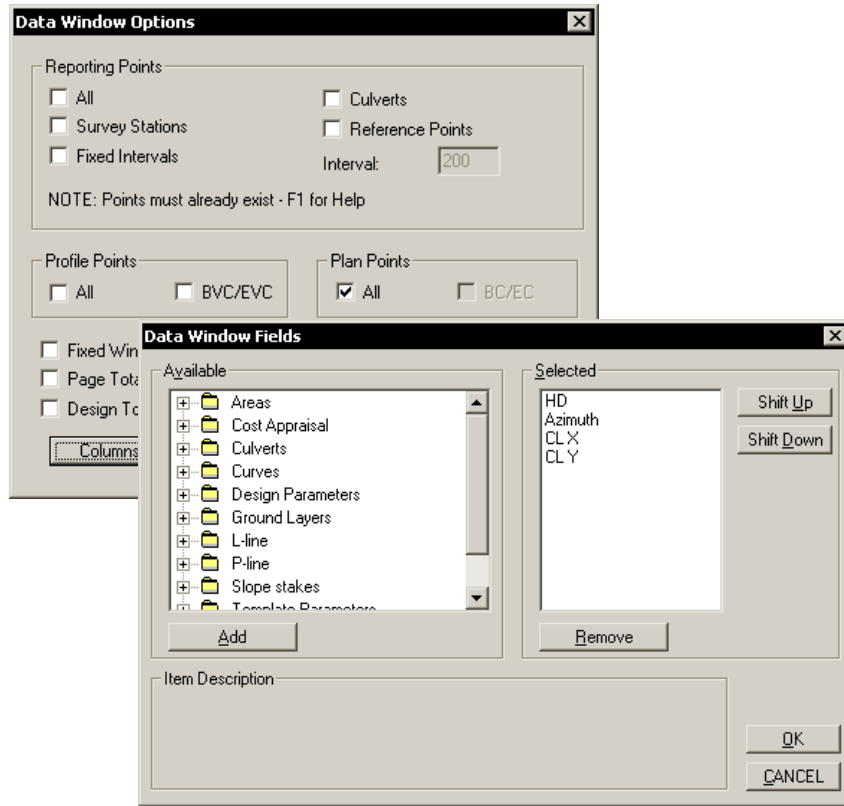

Figure 3.21 Data Window Options after Clicking the Columns Button
12. Right click in the Data window and choose *Data Options* . Select only Plan Points for display (see Figure 3.21 – type the F1 key for help).